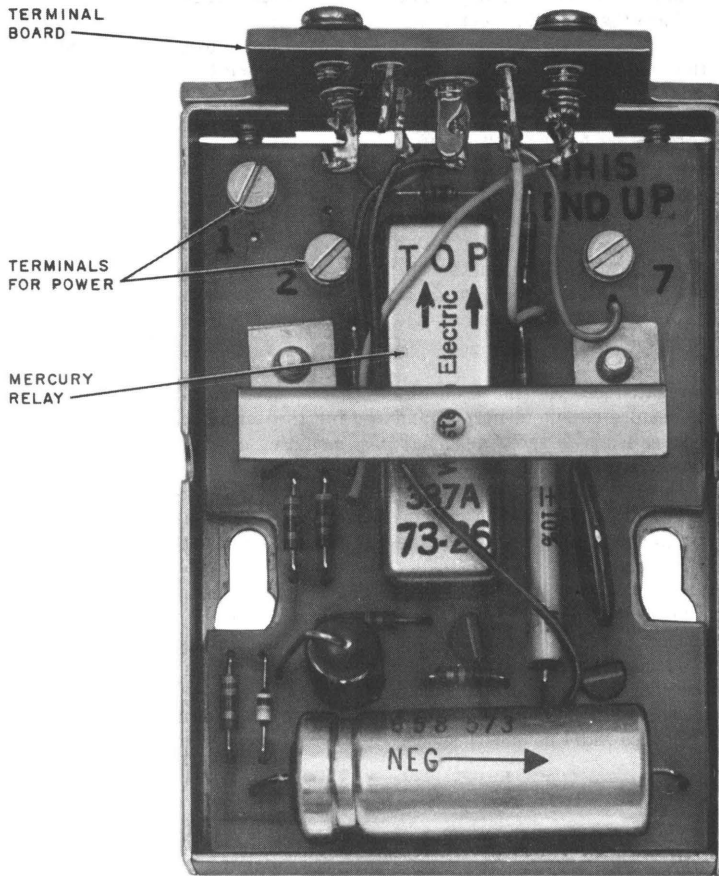

Fig. 1—23A Coupler, Front View (Cover Removed)
**3.05** The 2012B transformer, when used, should be plugged into a 115-volt, 60-Hz ac outlet not under control of a wall switch. Use only one coupler per transformer. Run "D" inside wire leads and terminate on screw terminals 1 and 2 located on the printed circuit board. (See Fig. 1.)
**6.01** Refer to Fig. 1, 2, and 3 for power and line connections.